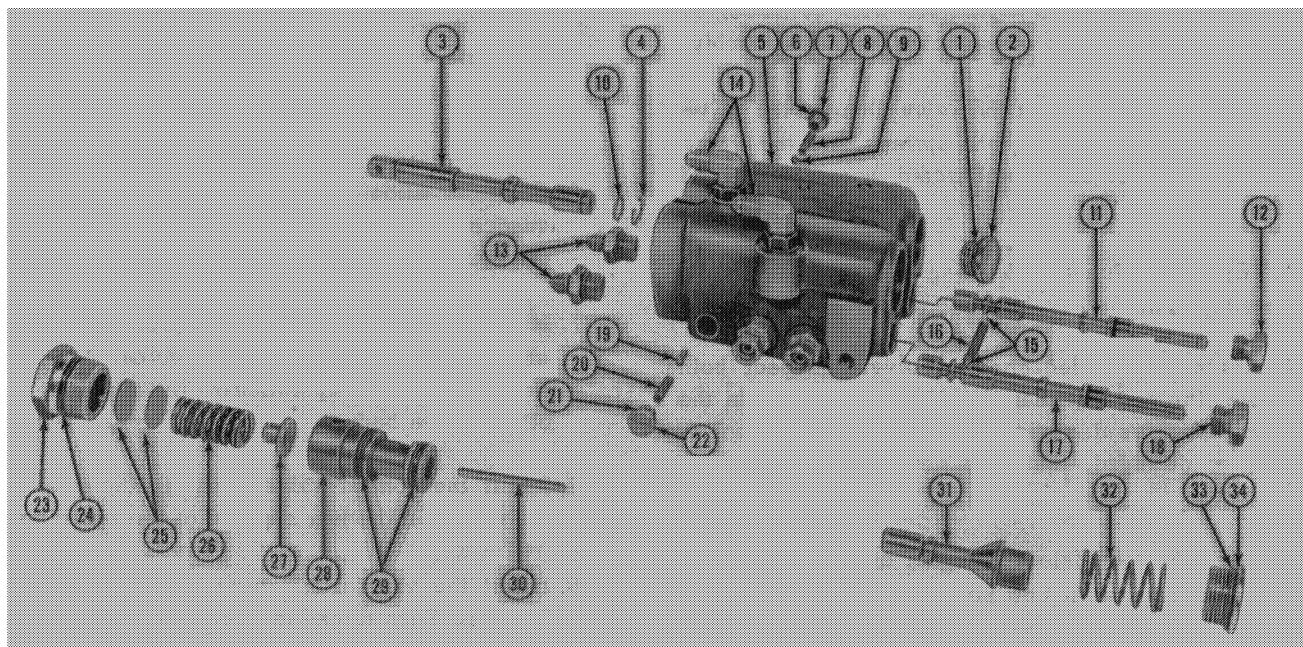

Figure 14
Observe the pressure reading on the gauge. The gauge reading should be  $350 \pm 50$  psi ( $24.5 \pm 3.5$  kg/cm $^2$ ). The regulating valve can be adjusted by adding or removing shims, Figure 14, until the desired pressure reading is obtained. Low regulating valve pressure will result in the control cylinders failing to work. High regulating valve pressure will result in failure of the cylinder piston or gland packing and oil leakage.
Refer to Figure 14 for parts identification.
1. Remove the shut-off valve spool from the sequencing valve body by removing the small slotted plug, Figure 14; then carefully slide the spool through the plug end of the valve body.
**NOTE:** Because of the spool stop, Figure 14, removal of the shut-off valve spool through the bottom of the valve body is not possible.
7. Partially remove either the lift or bucket sequencing valve spool, Figure 14. This will permit the removal of the inner detent plungers and spring.
## KEY FOR FIGURE 14